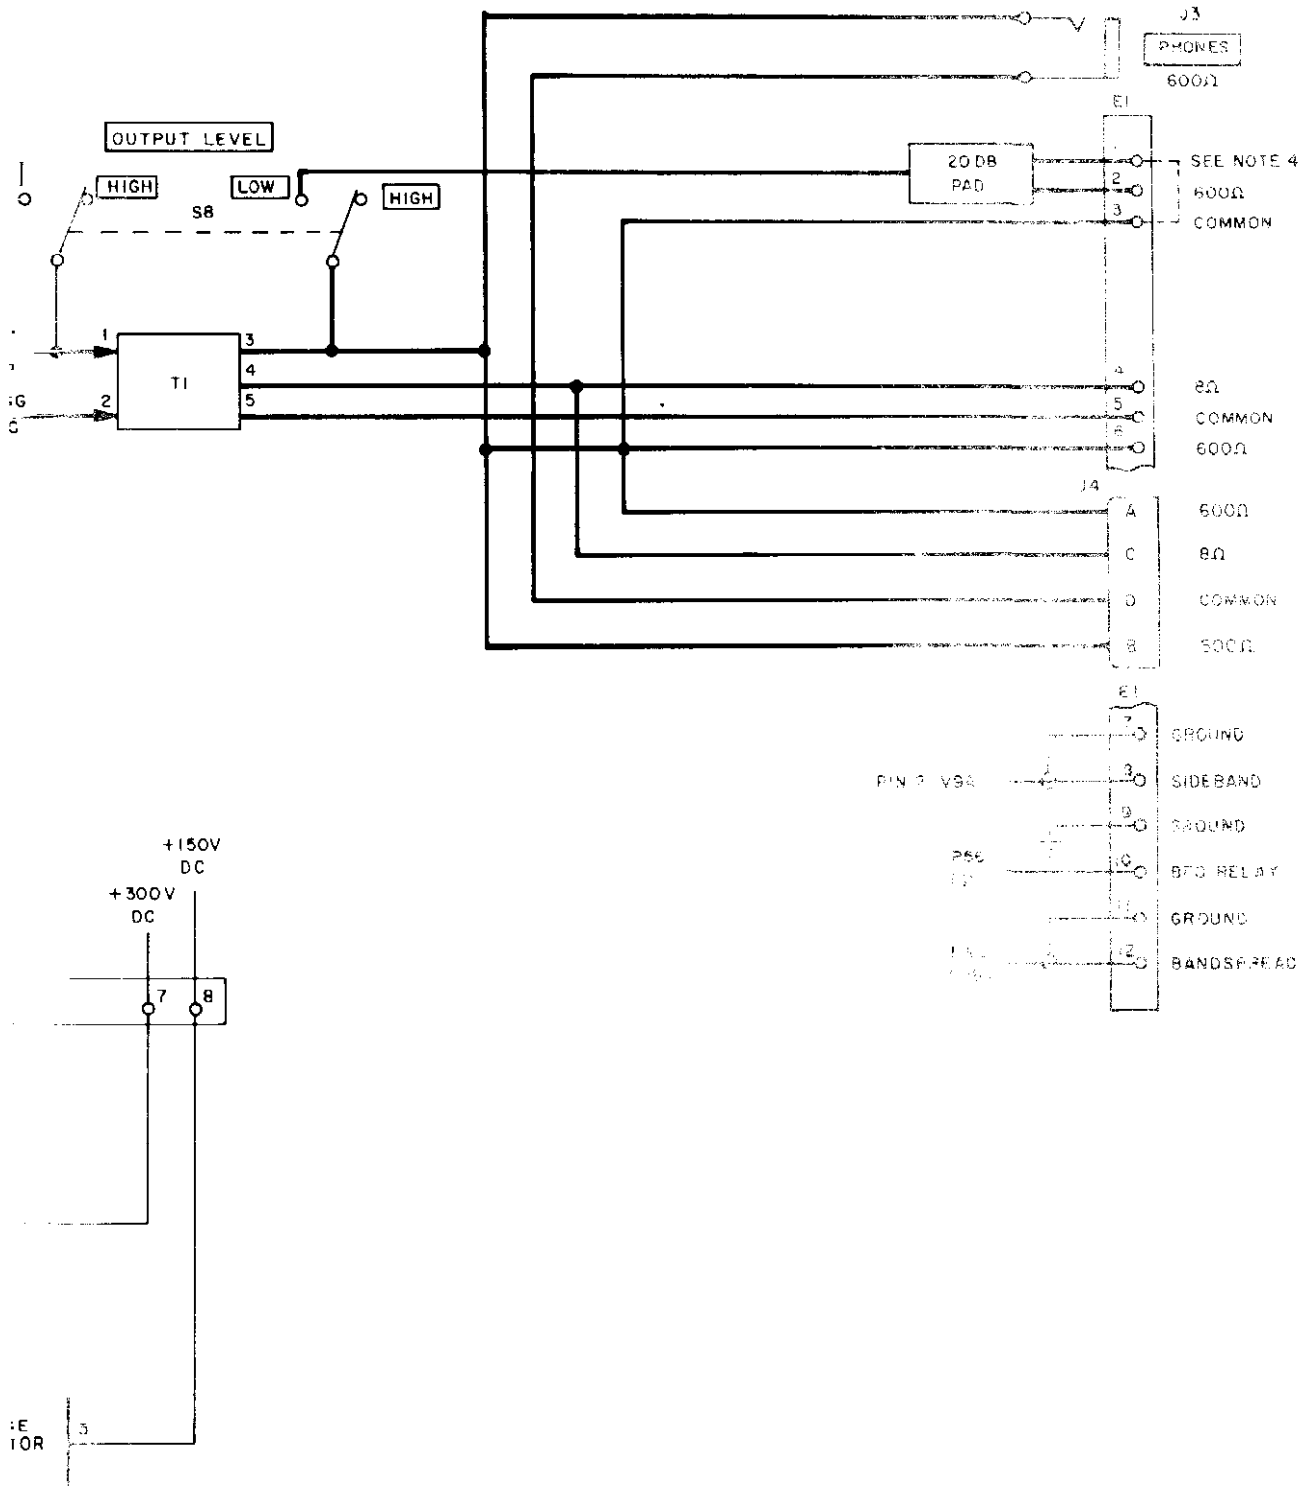

Figure 5-2. Single Sideband Converter CV-591A/URR.
5.1.4 The next step in logical troubleshooting is to determine the section in which the trouble is located. The converter can be logically broken down into three general sections: the audio, the mixers, and the IF amplifier. The overall description (paragraph 3-1) and overall block diagram (figure 5-2) should be referred to when selecting possible faulty functional sections.
5.1.5 The best method to pinpoint the faulty section is to connect an output meter to the audio output (figure 5-2) and insert an appropriate signal frequency into the grid of second mixer V4. A correct output (Table 5-1) indicates the audio section and the second mixer of the mixers section are not faulty. Inserting the IF frequency of 455 kHz into the first mixer and then the input of the IF amplifier and observing the output meter, will pinpoint the faulty section. If all sections appear to be faulty, a logical common circuit to check is the power supply.
5.1.6 After the faulty functional section has been isolated, it is often necessary to make additional "logical choices" as to which circuit or group of circuits (within the functional section) is at fault. A signal flow diagram (figure 5-2) provides the signal flow path and test location information needed to bracket, and then isolate the faulty circuit.
High Level: 2W (8 or 600 ohms)	Figures 5-2 and 5-3
Low Level: 150 mW (8 or 600 ohms)	Figures 5-2 and 5-3
Telephone Line: 1 mW (600 ohms, 0 DBM)	Figures 5-2 and 5-3
Check for defective tube V2 thru V6.	Figure 5-2